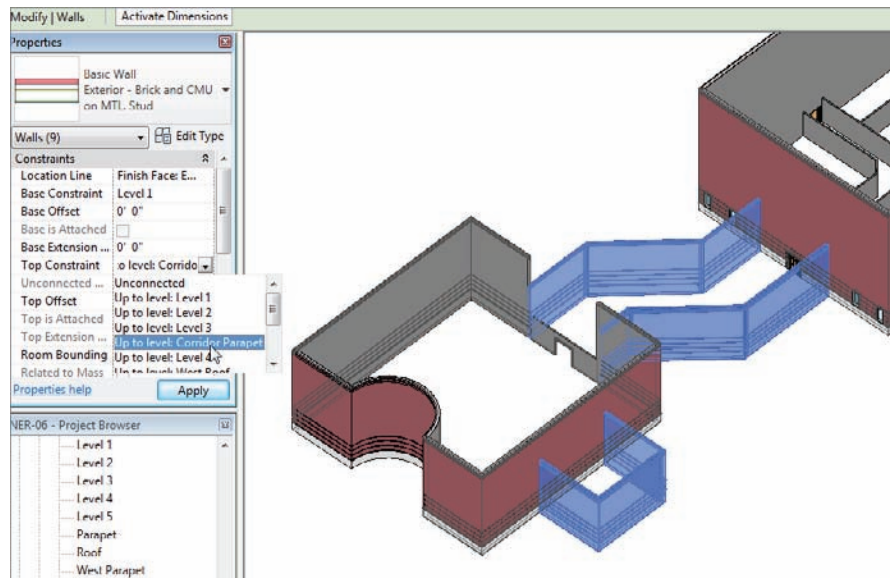

FIGURE 3.30 The final walls are constrained to the corridor parapet level.
7. In the Properties dialog, set the Top Constraint to Up To Level: Corridor Parapet (see Figure 3.30).